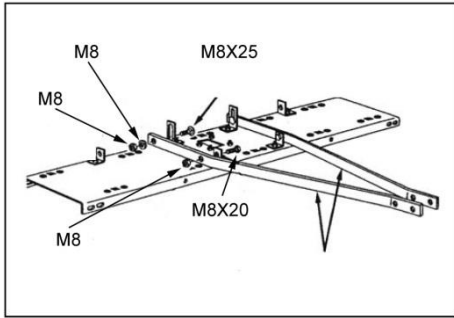

Figure 3
4. Secure the towing arms to the outside of the two small front angle brackets with two M8x20 bolts and M8 lock nuts. Do not tighten fully yet. Then secure the towing arms to the outside of the two large angle brackets with two M8x20 bolts and M8 lock nuts (fig. 3). Do not tighten fully yet.